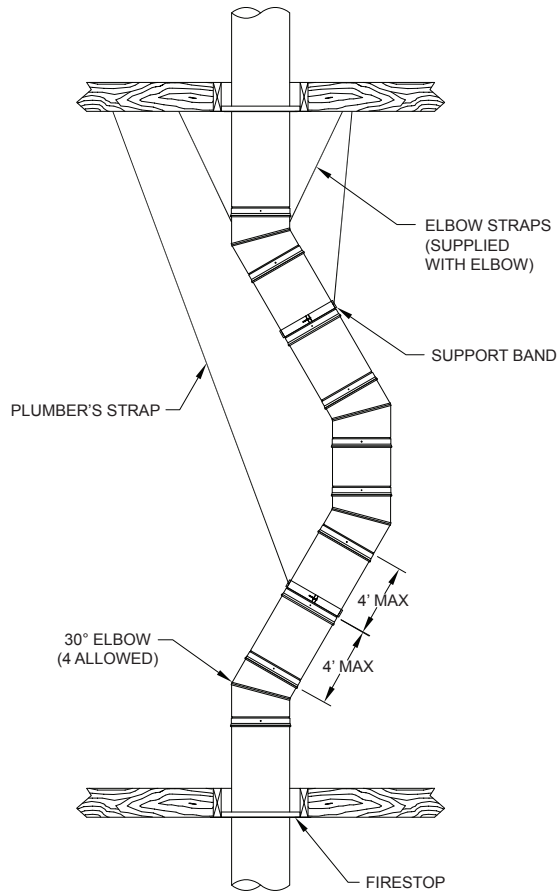
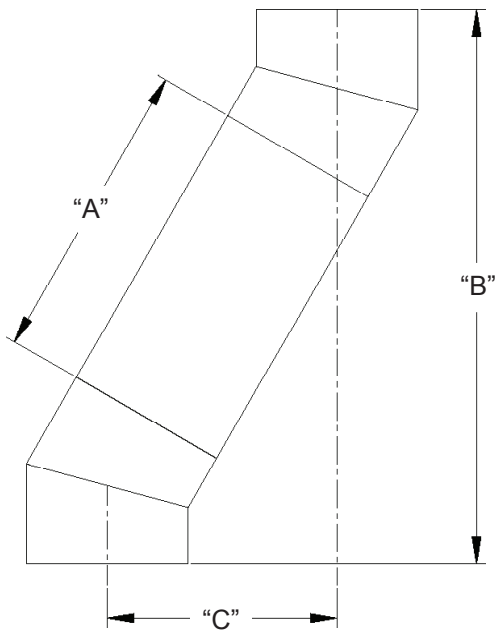

FIG. 15
FIG. 16
Elbow Installation: 15° and 30° elbows are provided to allow chimneys to avoid framing members or roof peaks. A maximum of 30° from vertical is allowed and a total of four 30° elbows (**FIG. 15**) for each chimney installation. A 2" clearance to combustibles must be maintained. If more than one (1) offset is needed, a mechanical exhaust fan should be used. The mechanical fan company would determine the viability of performance.
Attach the elbow to the chimney pipe, support or other part. Using the offset chart, add chimney sections between elbows, as shown in **FIG. 16** and **TABLE 2**. A Support Band or plumbers strap is required for every 4 foot interval between elbows to support the load as shown in **FIG. 15**. Attach the upper elbow to bring the chimney back to vertical.